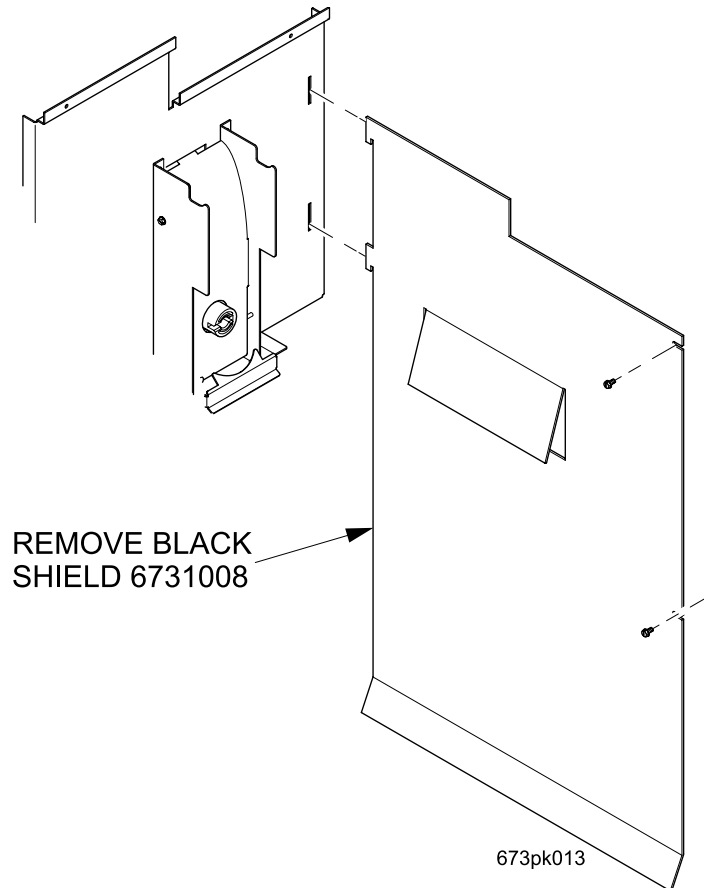

Figure 1
3. Remove the Shield - Water - Brewer (6731008) (see Figure 1 below).